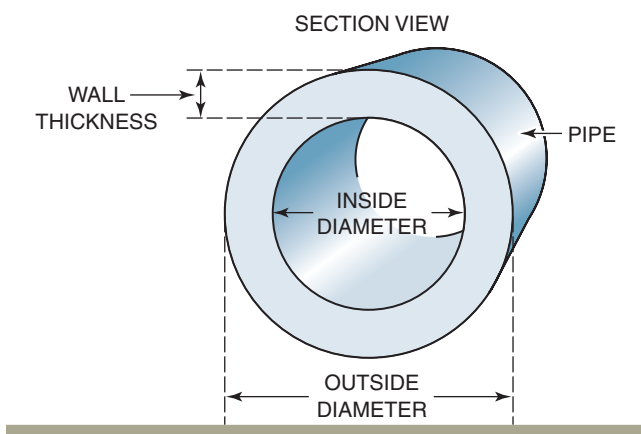

FIGURE 3-1 Outside and inside pipe diameters.
Copper is a thin-walled **tube** used in the air conditioning and refrigeration (ACR) trades and plumbing trade, and the ordering method often varies between these two trades. Plumbers usually order copper tube using both the OD and the ID (Fig. 3-1), but the ACR trade orders only by the OD. Steel piping materials are manufactured using the same OD for each pipe size. This sizing system is known as iron pipe size (IPS). Plastic pipe used for DWV installations is manufactured using IPS, with the ID varying based on the wall thickness. Three common wall thickness classifications are **Schedule (S)** 10, 40, and 80; S-40 is the most common schedule at about 1/4" thickness. A higher schedule rating indicates a greater wall thickness.